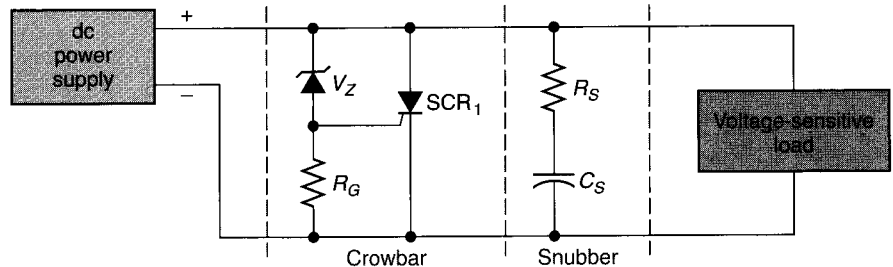

FIGURE 20.14 The SCR crowbar.
voltages. The crowbar circuit shown in Figure 20.14 consists of a zener diode, a gate resistor ( $R_G$ ), and an SCR. The circuit also contains a snubber to prevent false triggering.
17. In Figure 20.14, why not use a fuse in series with the load rather than the more expensive crowbar circuit?